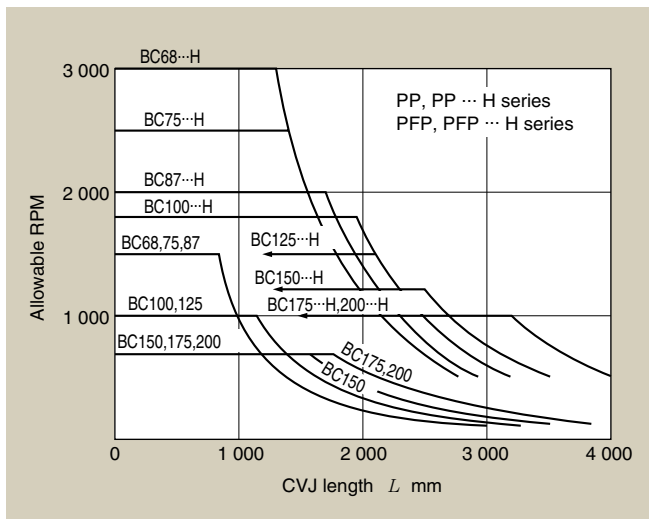

Fig. 15 Allowable RPM of CVJ
2. With the long shaft series joints, depending on the shaft length, the working RPM of joint will be limited. Check the allowable RPM of the intended shaft against the data in **Fig. 15**.